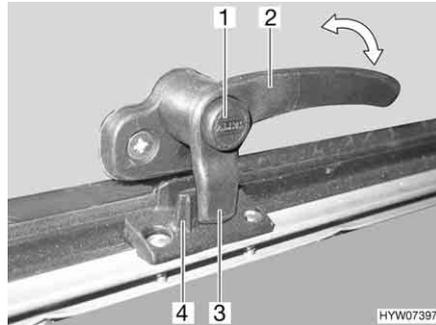
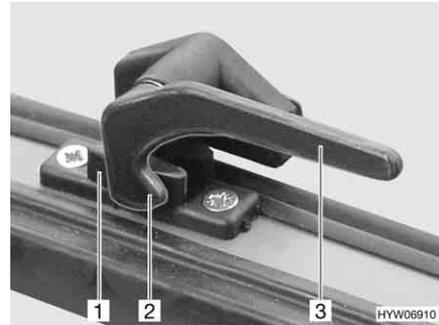

Fig. 57 Catch lever with safety knob in "closed" position
Fig. 58 Catch lever in "closed" position
- Press and hold the security button (Fig. 57,1), if present.
- Turn the catch lever (Fig. 57,2 or Fig. 58,3) a quarter turn towards the centre of the window.
- Turn the catch lever (Fig. 57,2 or Fig. 58,3) a quarter turn towards the window frame. The locking catch (Fig. 57,3 or Fig. 58,2) on the catch lever is entirely on the inner side of the window catch (Fig. 57,4 or Fig. 58,1).
- Firmly closed (Fig. 57 and Fig. 58)